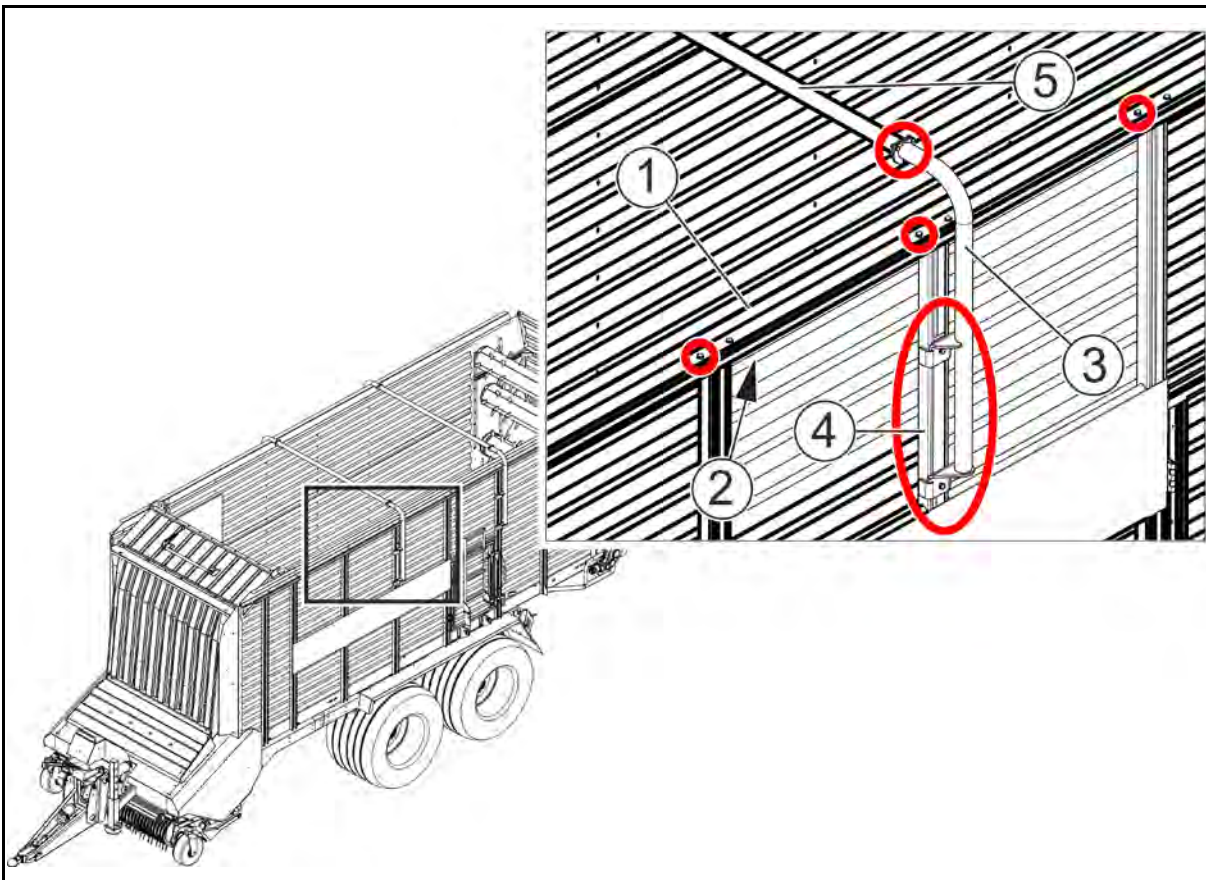

Fig. 79
2. Mount the attachment sections (1) on the body structures (2). Fitting points: see markings in fig. 79.
3. Mount the side elements of the tubular supports (3) to the fixing supports (4). Fitting points: see markings in fig. 79.
4. Mount the central sections of the tubular supports (5) to the side elements of the tubular supports (3). Fitting points: see markings in fig. 79.